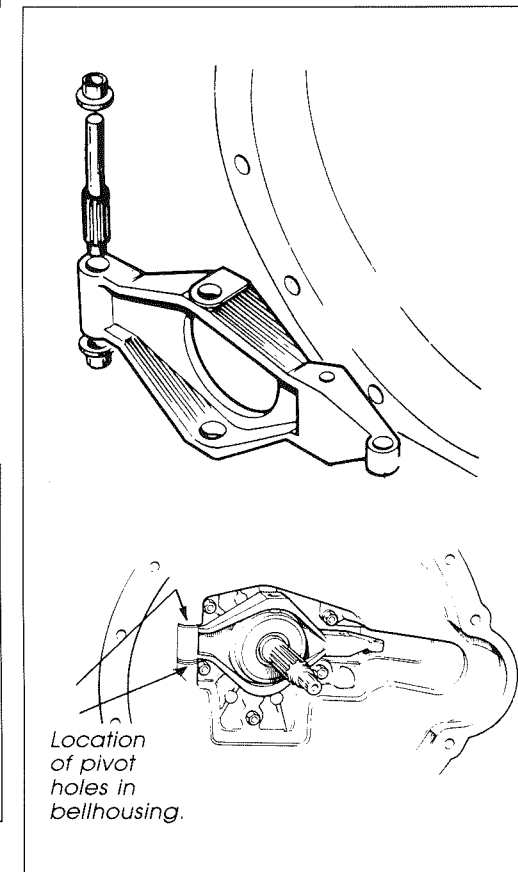

Fig. 7. Component parts of operating lever pivot.
b) **Lever Arm Pivot wear**, A very common failure I have found is wear in the lever arm pivot, sometimes to such an extent that it has fallen out! Obviously with wear here you are losing some of your gear lever arm advantage, again resulting in insufficient travel to push the pressure plate of the friction plate, the lever arm pivot should comprise the parts shown in figure 7. If the pivot holes in the bellhousing are badly worn, a **SMALL** amount of body filler pushed into the bottom hole will prevent the pivot pin from ultimately falling out.